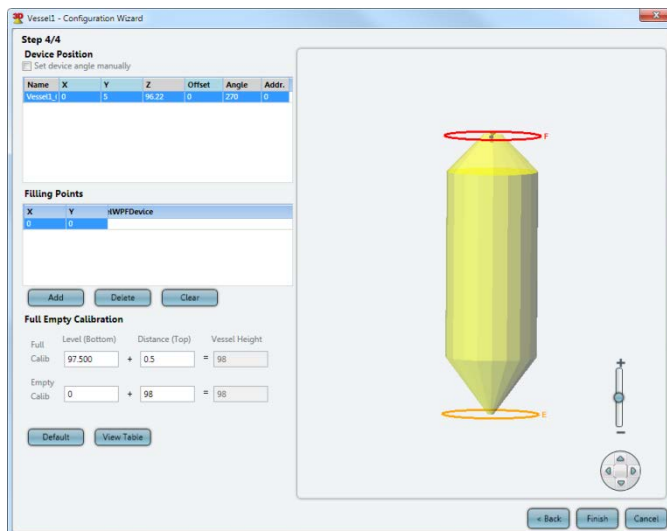

Figure 25: Configuration Wizard Step 4 - Full and Empty Calibration Levels
- Set the distance from the top of the vessel to set 100% (20mA) (see Figure 25) in the **Full Calibration** section or set the maximal material level in the Level (Bottom) field. Default value is 0.5m (1.64ft). Dead band is 50cm (1.64ft) from the top of the scanner's horn case.